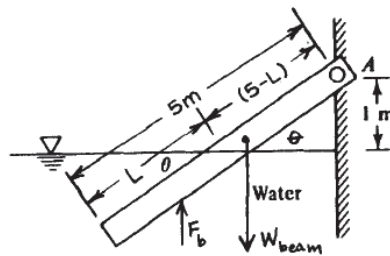

Fig. 6-18
6.36 A wooden beam (s.g. = 0.64) is 140 mm by 140 mm by 5 m and is hinged at A, as shown in Fig. 6-18. At what angle θ will the beam float in water?
▮ The forces acting on the beam are shown in Fig. 6-18. $W_{\text{beam}} = [(0.64)(9.79)][(0.140)(0.140)(5)] = 0.6140 \text{ kN}$ and $F_b = 9.79[(0.140)(0.140)(L)] = 0.1919L$. $\Sigma M_A = 0$; $(0.1919L)[(5 - L/2)(\cos \theta)] - (0.6140)[(\frac{5}{2})(\cos \theta)] = 0$, $-0.0960L^2 + 0.9595L - 1.535 = 0$, $L = 2.000 \text{ m}$; $\sin \theta = 1/(5 - 2.000) = 0.33333$, $\theta = 19.5^\circ$.